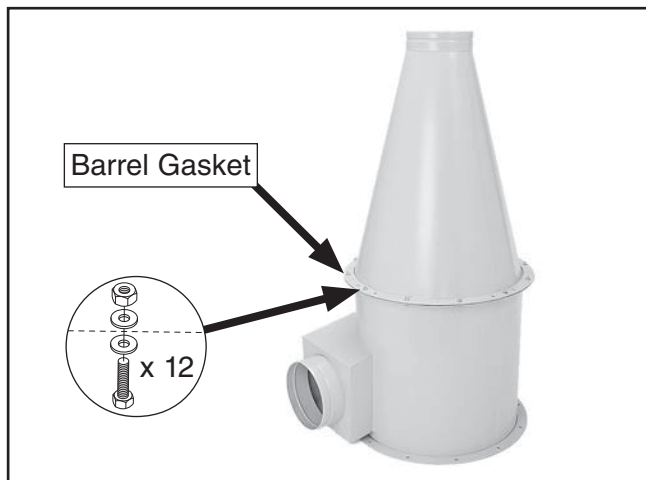

Figure 11. Cyclone funnel attached to intake barrel.
9. Attach cyclone funnel to intake barrel with barrel gasket between them, as shown in **Figure 11**, with (12) $\frac{5}{16}$ "-18 x 1" hex bolts, (24) $\frac{5}{16}$ " flat washers, and (12) $\frac{5}{16}$ "-18 hex nuts.